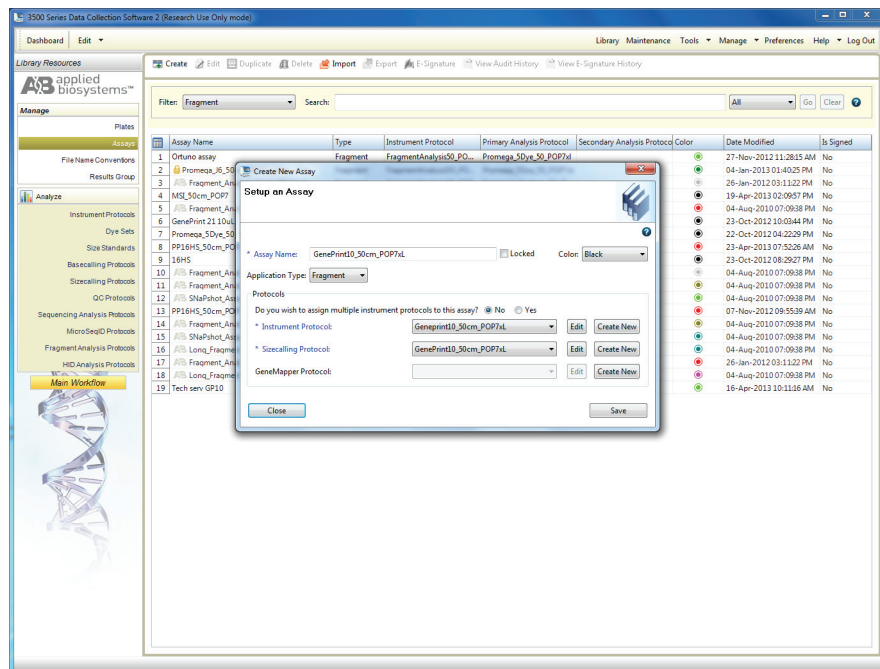

Figure 9. The Setup an Assay window.
- To create a new Assay, navigate to the Library. Select “Assays”, then select “Create”. In the Assay window (Figure 9), select the application type “Fragment” and the appropriate Instrument Protocol and Sizecalling Protocol. Assign a descriptive assay name, then select “Save” and “Close”.